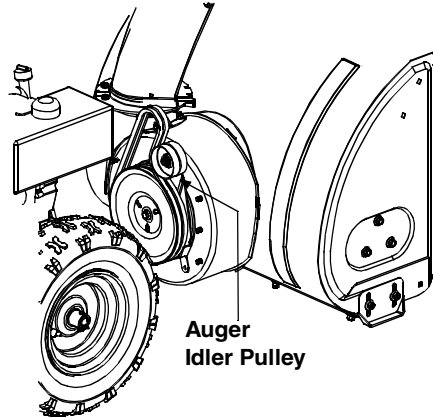

Figure 32
- To remove the front auger drive belt, push the idler pulley to the left. See Figure 32 . The belt brake should move outward. Lift the front auger drive belt from the front auger pulley.